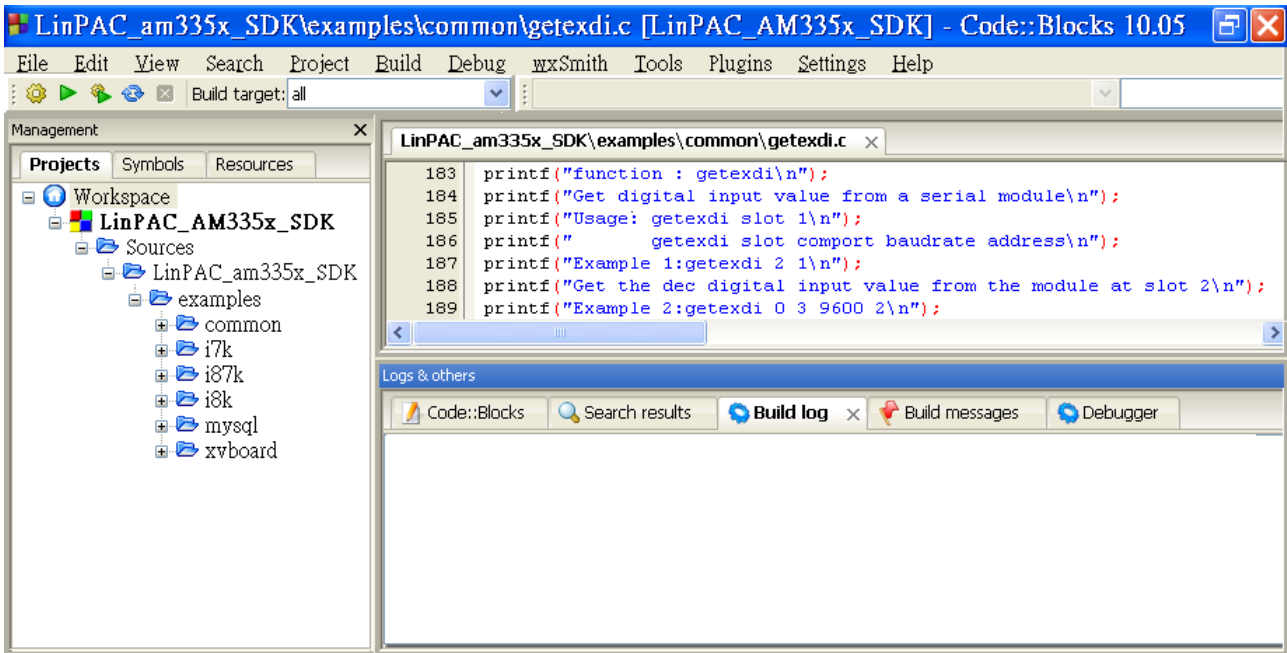

Fig. 3-19
- Following window will come up (refer to Fig.3-19):